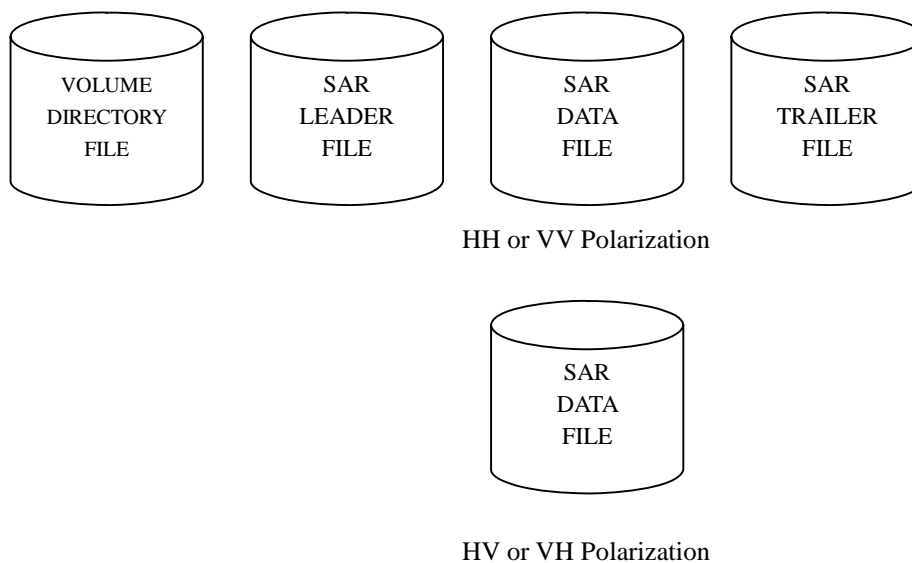

Figure 3-2 Configuration of Level 1.0 (High Resolution mode (dual-polarization))
- Figure 3-2 Configuration of Level 1.0 (High Resolution mode (dual-polarization))